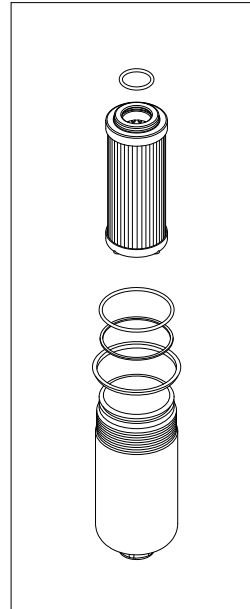

fig. 19
- (Fig. 19) Fit #1: the anti-extrusion ring and #2: the O-ring in the bowl groove, insert the O-ring in the filter element cap